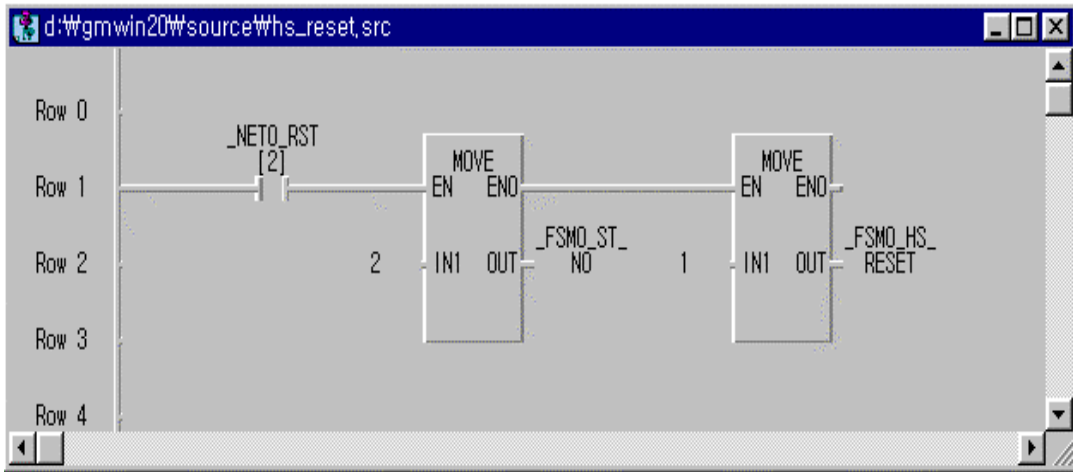

Fig. 6.6.5(A) Ex. of program using _FSMx_HS_RESET
Fig. 6.6.5(A) is an example of program that recovers *high speed link* flag to normal state when remote I/O station is recovered after power failure. In the figure, `_NETO_RST[2]` is a flag that is set to 'On' when power of station 2 becomes down and recovered during performing communication between communication module mounted in slot 0 and station 2 of other station(remote station). If power becomes down and recovered in remote station, `_HS_MODE` is set to 'Off' and link-trouble maintains 'On'. To clear this information, enter appropriate remote station into `_FSM0_ST_NO`, and set `_FSM0_HS_RESET` FLAG to 'On'. Then, `_HS_MODE` is set to '1' and link-trouble is set to 'Off'. If link-trouble maintains '1' after recovering power failure, this means that remote I/O has error, so user can handle it according to system configuration.